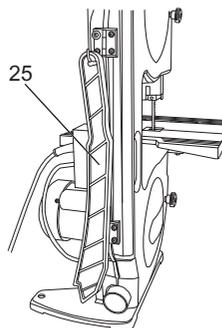

Fig. 8
> Always store the push stick (25) in position when not in use. (Fig. 8)